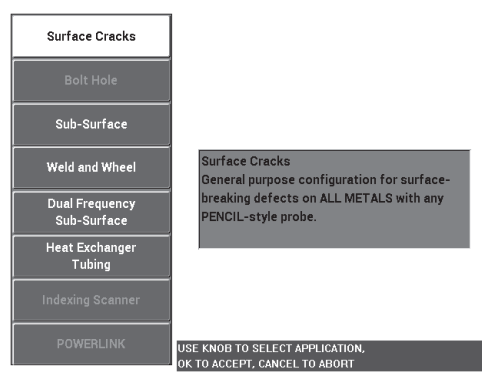

Figure 5-78 The Surface Cracks application
2. Press the ADV SETUP menu key () once, and then select **APPL SELECT** (A key) to open the application selection menu. Select **Surface Cracks** with the knob, then press  to accept (see Figure 5-78 on page 184).